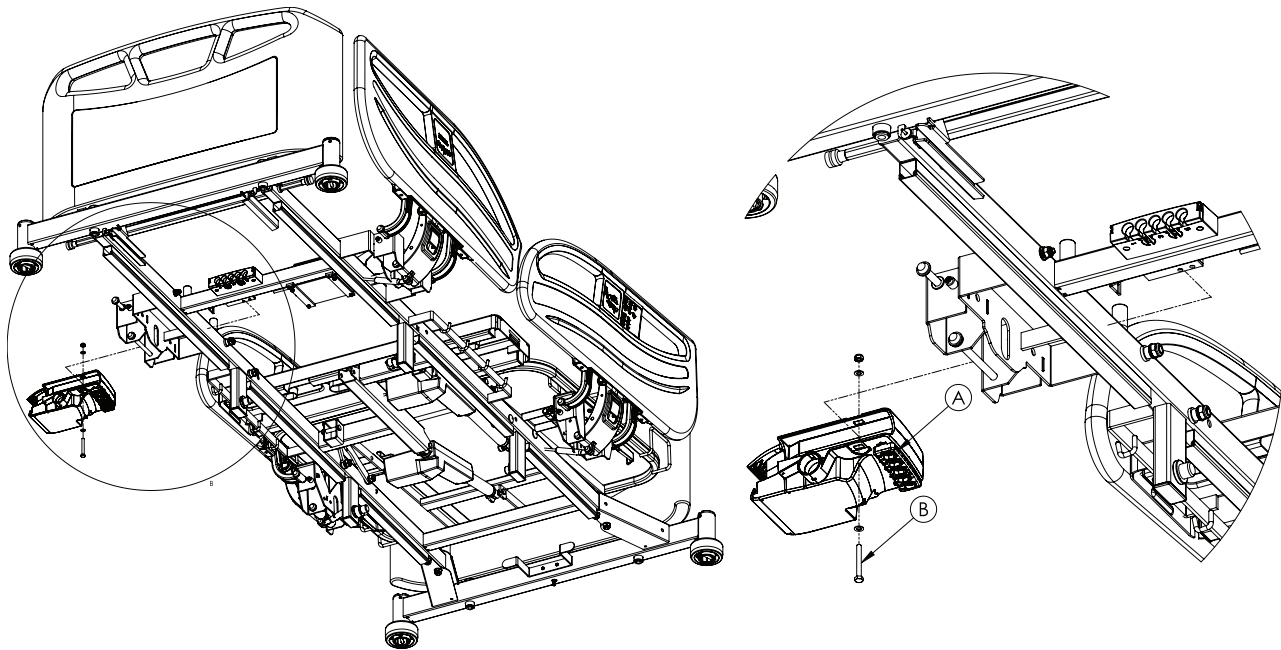

Figure 12: Control box
6. Using a small flat screwdriver, un-clip the actuator cable retainer (A) from the control box (Figure 12 on page 60).
11. Using a 10 mm combination wrench and a 10 mm socket, remove the bolt (B) that secures the control box to the litter frame (Figure 12 on page 60).